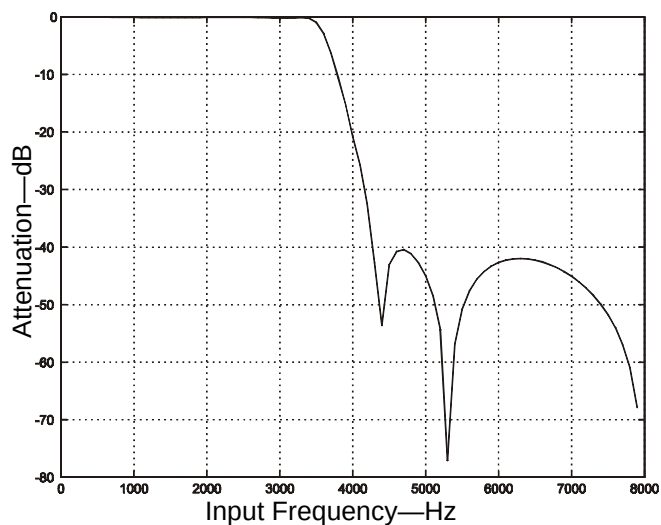
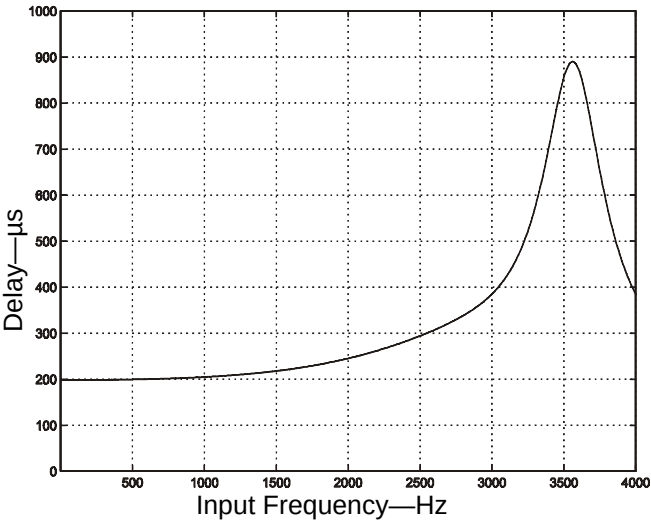

Figure 10. IIR Receive Filter Response
Figure 14. IIR Receive Group Delay
**Note:** Typical IIR filter characteristics for Fs = 8000 Hz are shown in Figures 10, 11, 12, and 13. Figures 14 and 15 show group delay versus input frequency.
For Figures 10–13, all filter plots apply to a sample rate of